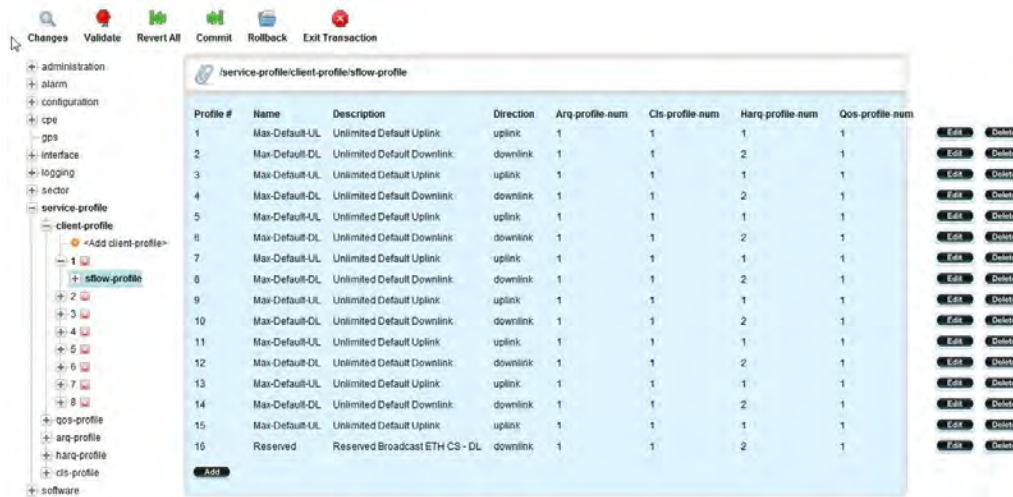

Figure 120 Client Profile Edit Capability
1. At the Main Web GUI Interface Screen select the **Configuration** Tab, then the **service-profile** Main Menu Option and then the **client-profile** Main menu Sub Element. This User must then select the Client Profile that they wish to configure and scroll down to the bottom of the Window. They will be presented with the Service Flow Profile (Figure 120). If the User enters the Edit Mode, then at the end of each profile the **Edit** and **Delete** Command Menu Options will appear. The User can select the Edit Command Menu option and they will be navigated into the Edit Mode.